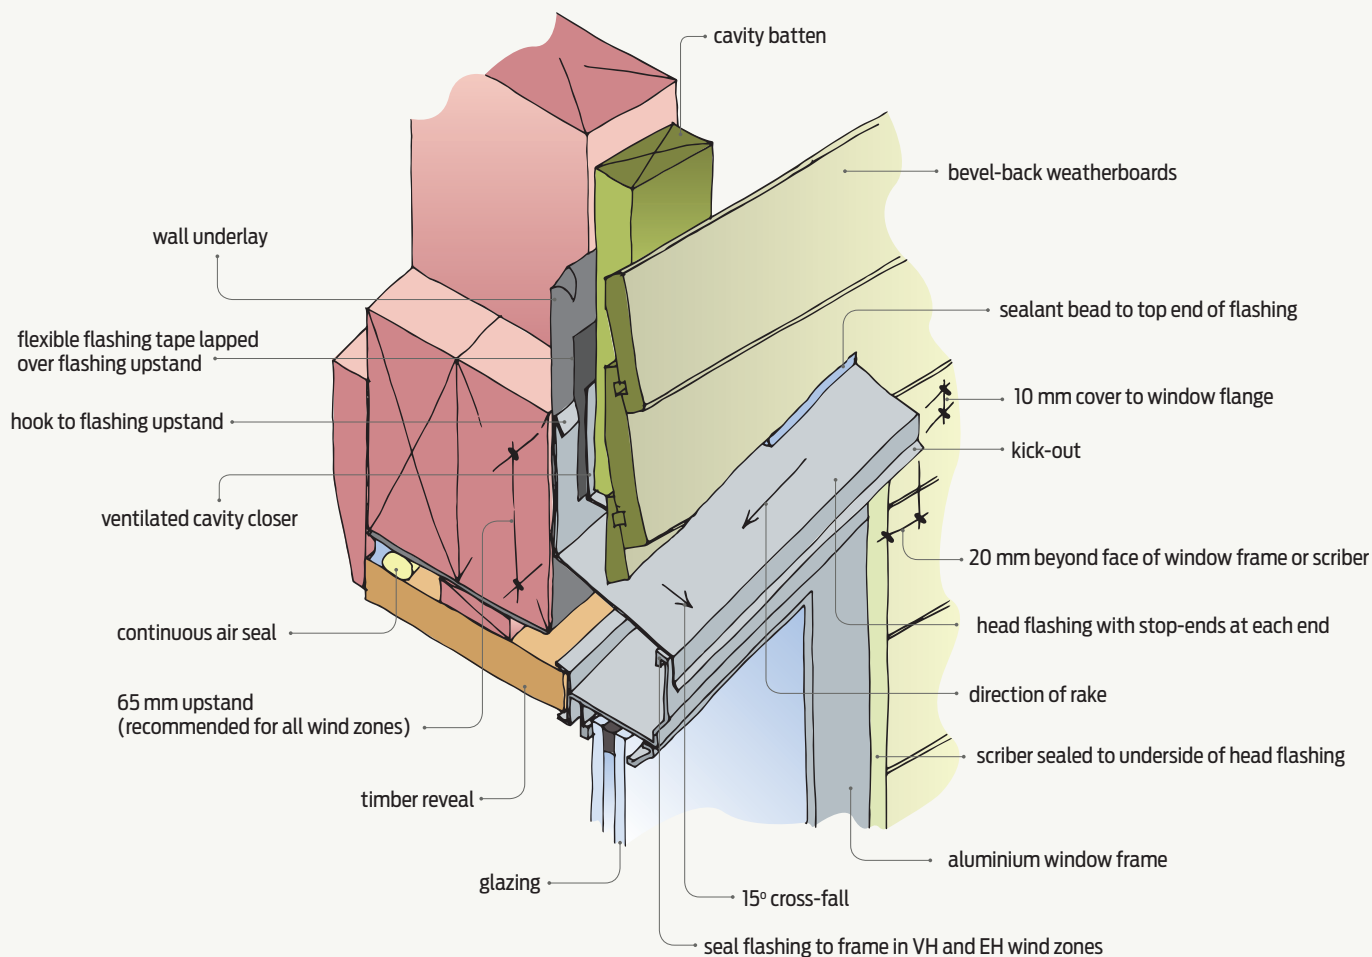

Figure 2 Raked flashed window head – preferred option.
- extend at least 20 mm beyond the face of the window frame or the scribe or rustic plug where horizontal weatherboards are installed (see Figure 2)
The key elements to the detailing of a raked aluminium head (Figure 2) that overlaps the cladding are: